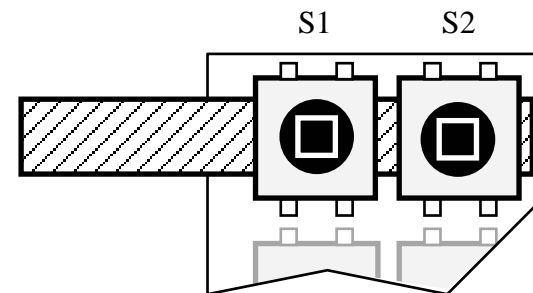

Figure 5-2
- Position pushbutton switches S1 and S2 as shown in Figure 5-2, using the switch spacing tool to set the switch height. Make sure all four legs of each switch are centered in their holes, then gently push each switch until it is resting flush against the switch-spacing tool. (Caution: switch pins are fragile.) *Do not solder yet.*